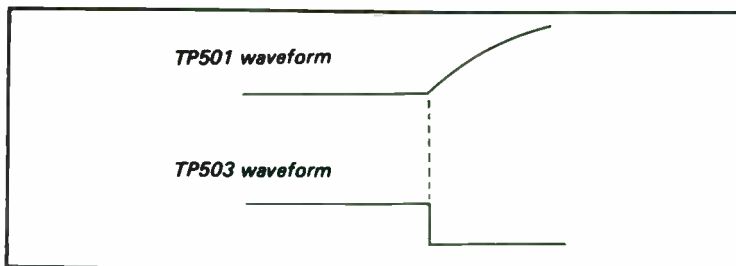

Fig. 5-33. Dual-trace waveform shift adjustment.
- Adjust VR505 on ARS board so that the phase of the positive-going portion of channel-1 waveform matches that of the negative-going portion of the channel-2 waveform. Note these two waveforms in Fig. 5-33. Note: set the tracking control knob to its center detent position.